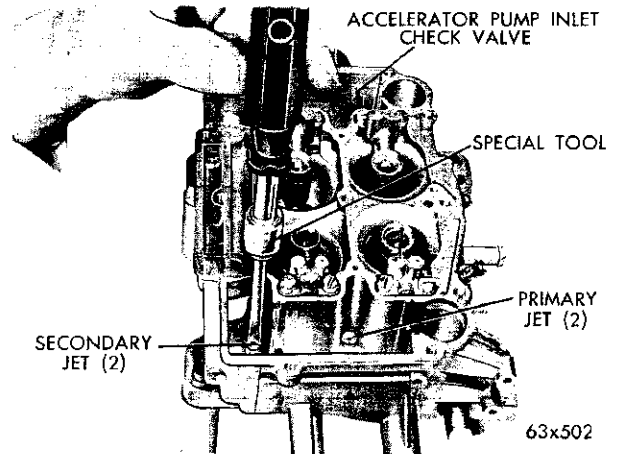

Fig. 40—Removing or Installing the Main Metering Jets
(2) Using Tool T109-58 remove the main metering jets (primary side), as shown in Figure 40.
(3) Using Tool T-109-58, remove the main metering jets (secondary side), as shown in Figure 40.
(6) Install the primary and secondary main metering jets, using Tool T109-58. (See Fig. 40.) Tighten jets securely.
(7) Install the accelerator pump intake check ball assembly in position in the carburetor bowl. Tighten securely, using Tool T109-59.